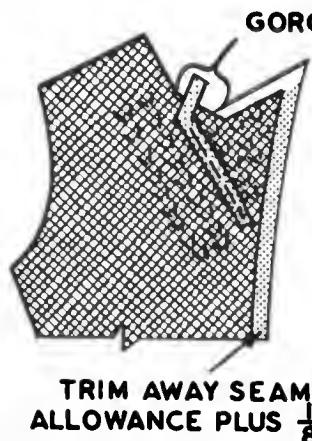

Fig. 160. Trimming the interfacing.
- Trim the interfacing seam allowance plus  $\frac{1}{8}$  in. (Fig. 160).
- Trim from the bottom of the hem to the tip of the lapel, and across the top of the lapel to the collar notch. Do not trim the gorgeline (Fig. 160).